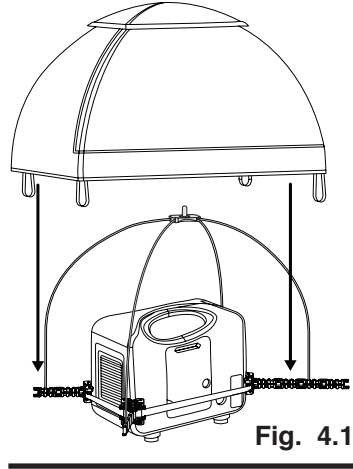

Fig. 4.1
- b. Place the GenTent Canopy on the Frame Rods. Center the top cap on the Center Connector pin. (Fig. 4.1) Make sure the GenTent Canopy coverage is generally equal and level.